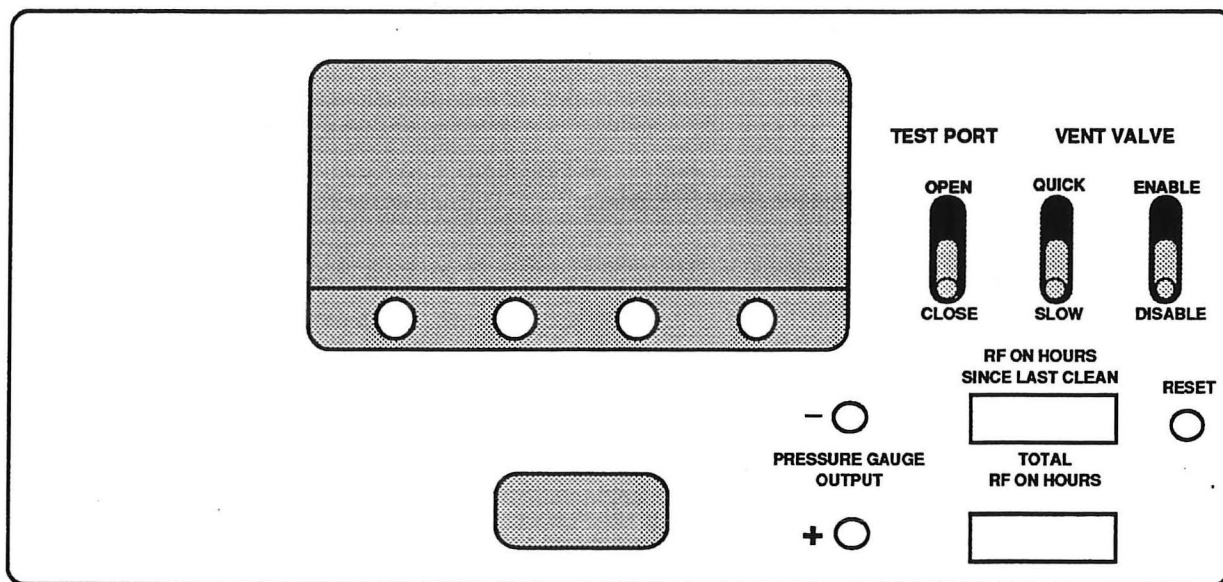

Figure 7. Front Panel Switch Locations
3. Enable the N2 vent valve by placing the PURGE switch to the **ENABLE** position (see figure 7).
4. Switch to **QUICK** flow (see figure 7).